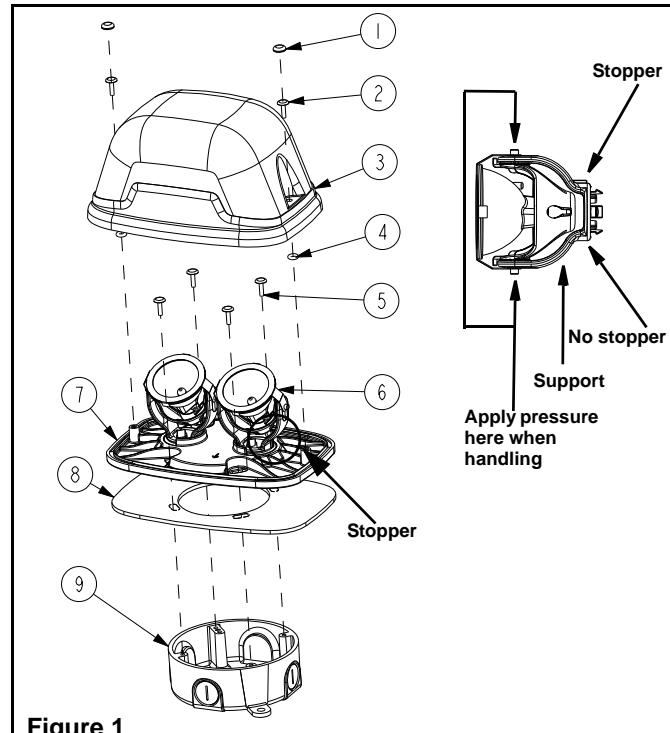

Figure 1
3. Install the gasket (8) on the back plate.
4. Align and snap in place the lamp assemblies with "stopper" oriented per Figure 1.
Note: handle lamp assemblies by applying a pressure on either end of the support as per Figure 1.
IMPORTANT: For cases where the junction box is surface mounted, the junction box must be **round** and Nema 4X rated for the unit to retain a Nema 4X rating (see figure 1). Plugs must be properly sealed with a sealing compound.